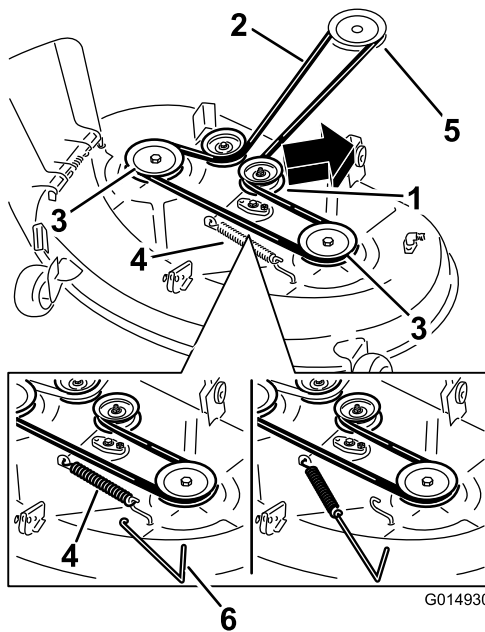

Figure 55
6. Using a spring-removal tool (Toro Part No. 92-5771), remove the idler spring from the deck hook to remove tension on the idler pulley, and roll the belt off the pulleys (Figure 54 and Figure 55).
7. Route the new belt around the engine pulley and mower pulleys (Figure 54 and Figure 55).
8. Using a spring-removal tool (Toro Part No. 92-5771), install the idler spring over the deck hook and place tension on the idler pulley and the mower belt (Figure 54 and Figure 55).